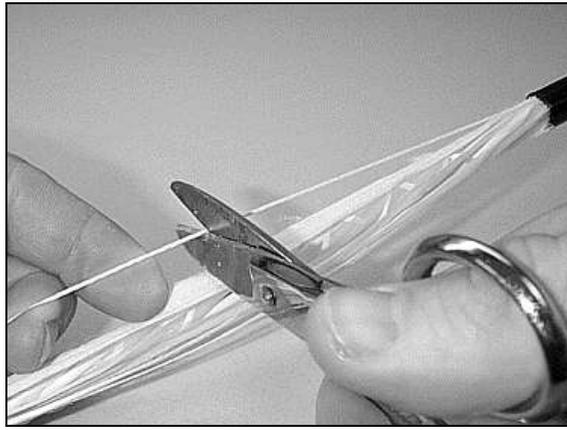

Figure 32 – Cut the ripcord at the midpoint.
6.15 Cut the ripcord in the middle of the sheath opening (Figure 32). Cut and remove the aramid strength members and water blocking threads.